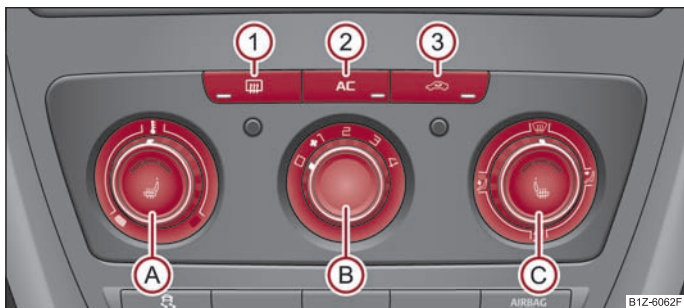

Fig. 82 Climatic: Control elements
The cooling only operates if button   $\Rightarrow$  fig. 82  is pressed, and the following conditions are met:
- Turn the control dial (A) ⇒ fig. 82 to the right in order to increase the temperature.
- Turn the control dial (A) to the left in order to decrease the temperature.
- Press the button (AC) (2) ⇒ page 74, fig. 82. The warning light lights up in the button.
- When you again press the switch (AC), the cooling system is switched off. The warning light in the button goes out.
- Press the button   ⇒ page 74, fig. 82 the warning light lights up in the button.
The recirculated air mode is switched off automatically if the air distribution control  is in position  ⇒ page 74, fig. 82. You can also switch recirculated air mode on again from this setting by repeatedly pressing pushbutton .